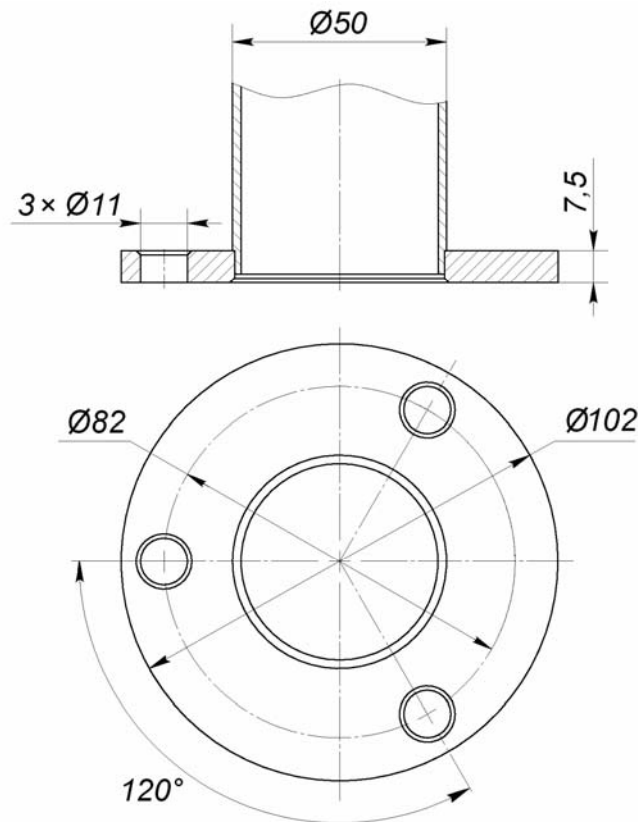
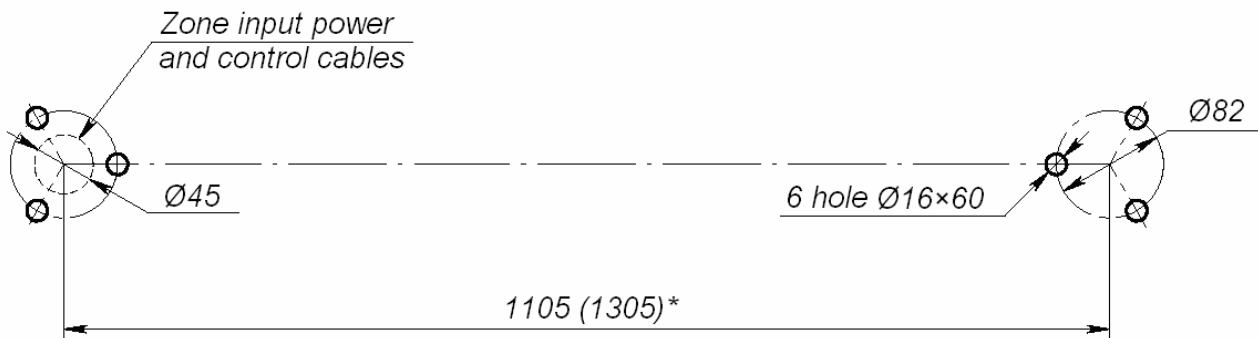

Fig. 11 Location of holes for anchor bolts in the flanges
Fig. 13 Holes for anchor bolts in flanges of rotary railing section posts
3. Put the first post in the required place so that coupling fittings location would correspond with the required rails position. Mark out three installation holes for anchor bolts through the holes in the flange (see Fig. 11). Put the post down.
2. Mark the points of flange fastening of vertical and support posts as depicted on Fig. 11 and Fig. 13 – each of two groups consisting of three $\text{Ø}16 \times 60$ holes for M10 anchors.
1. Mark out the centers of railing posts. Provide following distance between posts - 1105±2 mm (for 1 m railing section) and 1305±2 mm (for 1.2 mm railing section) in order to secure normal operation of electromagnetic BD (see Fig. 13 and Table 4).
2. Mark fixing points of post flanges of railing sections, as depicted on Fig. 11 and Fig. 13 – three Ø16×60 holes (M10 anchors) for each of two posts.
3. Prepare cable duct in the floor for power cable and control cable (see Fig. 13).